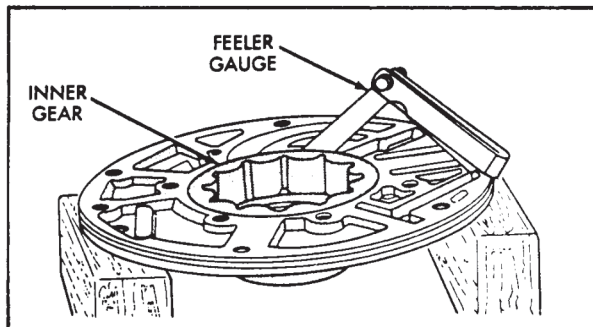

Figure 49
7. Measure clearance between the outer gear and the pump body, as shown in Figure 49, with a feeler gauge. The clearance should be .0035"-.007".